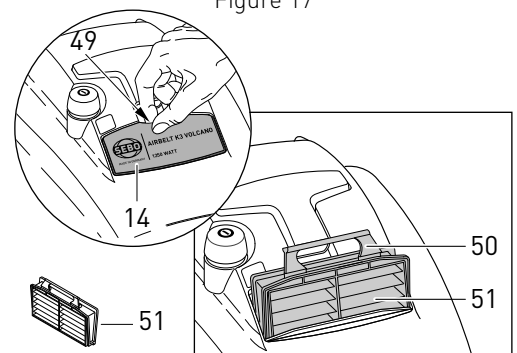

Figure 18
Changing the Exhaust Filter - Figure 18
The exhaust filter (51) needs to be changed when it becomes extremely dirty or clogged with dust, or after approximately 10 to 20 filter bags have been used. To change the exhaust filter, set the canister flat on the floor as shown in figure 18. Remove the printed cover on top of the machine (14) by lifting the catch (49) in the upholstery nozzle recess (see inset, figure 18). Pull out the filter using the handle (50) and fit the new filter into the same position. The filter handle should point toward the upholstery nozzle when it is folded down. Fit the tabs on the bottom of the cover (14) into the grooves and snap the cover down firmly.